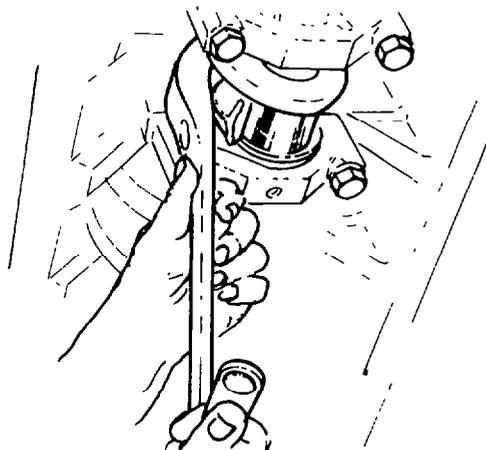

Fig. 81 — Positioning Connecting Rod over Crankpin
- p. Using tool J-21480 draw the connecting rod downwards, as shown in fig. 81, and at the same time guide it past the piston cooling nozzle; position the big-end over the crankpin.